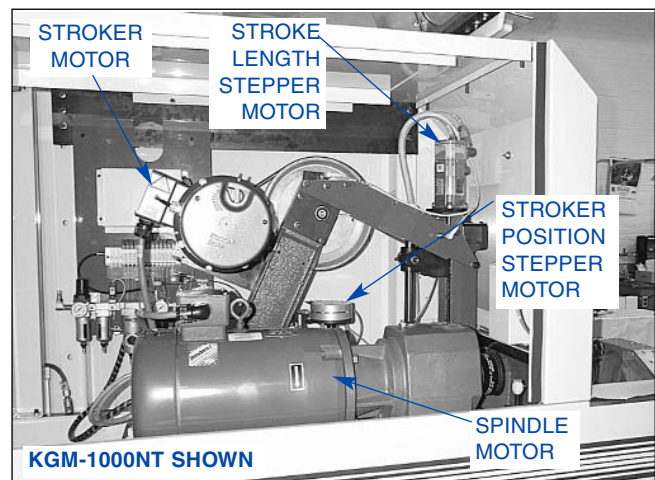

FIGURE 2-10, Drive Motors
6. DRIVE MOTOR(S): There are five (5) Motors used in the Machine (see Figure 2-10):